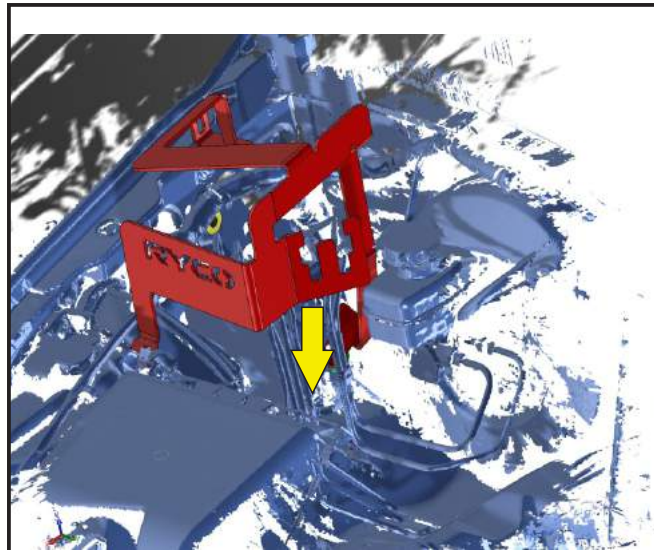

FIG. 9A FB9810CX BRACKET INSTALLATION
5. When fitting the FB9810CX Catchcan bracket as shown in FIG. 9A to 9C, you will be required to manouevre the bracket around engine components.